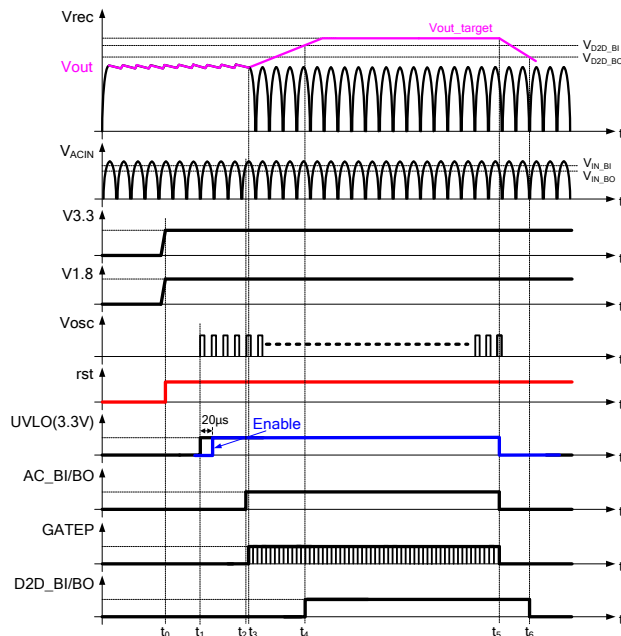

Figure 9: Power Supply Sequence of Digital Controller
1. D2D brown-in/out signal (see Figure 9)
Figure 9 shows the timing of the digital PFC block.